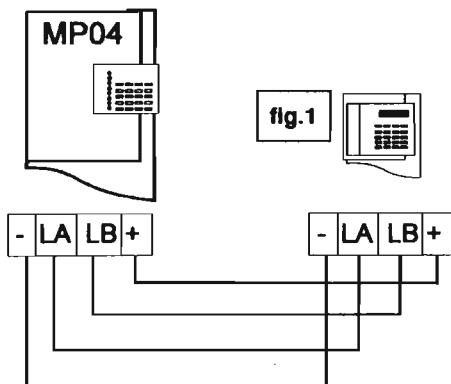

fig.1
- Connect the keypads (max 4) to the control unit through serial line RS485 as in fig.1
- Should it be necessary to install more than one keypads (4 max) it is possible to perform a stellar (fig.1) or a cascade (fig.2) connection or even to combine these two types of connection.